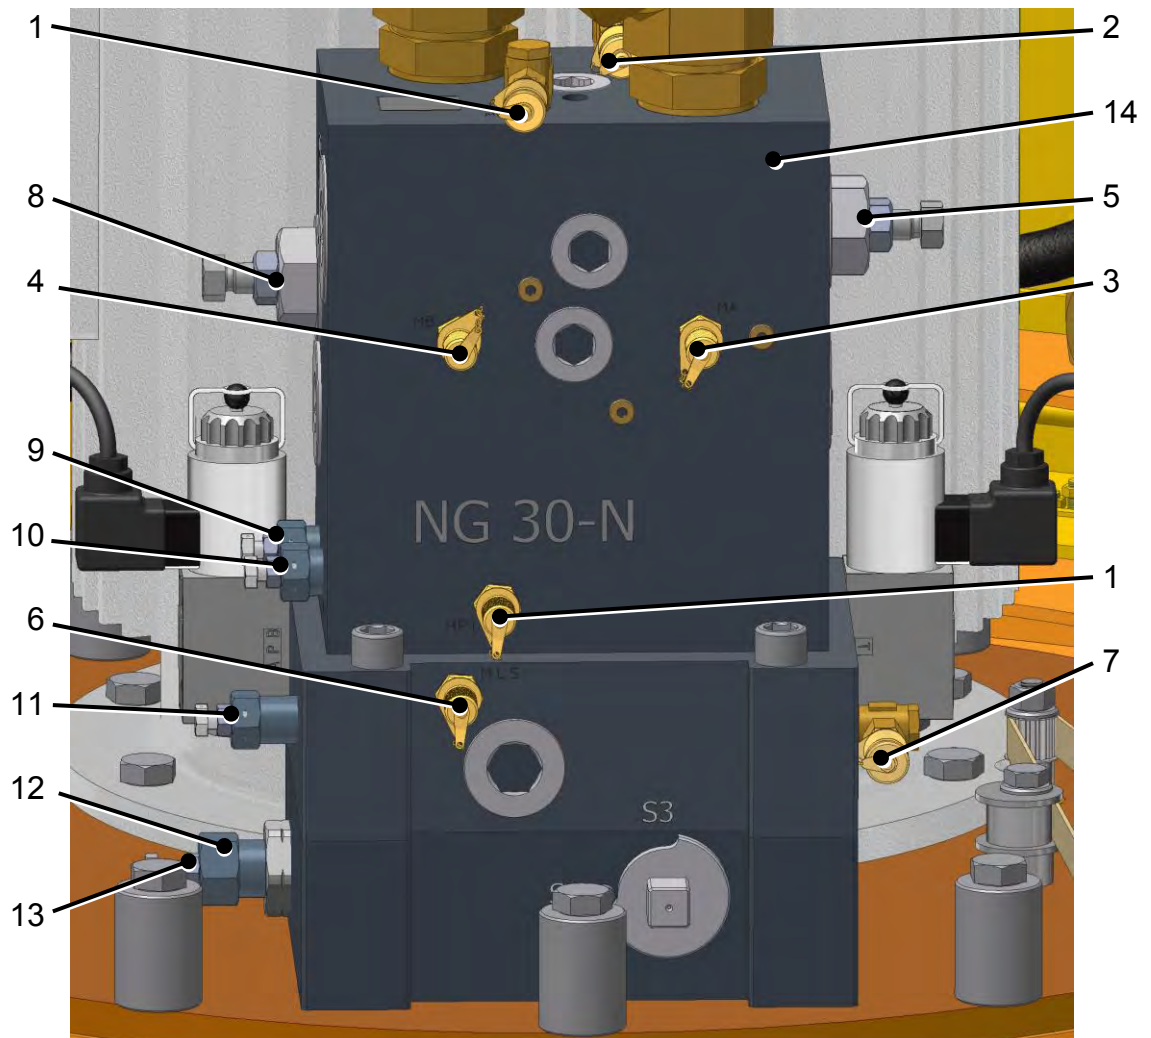

Figure 4.2.6b Control block
Pressure adjustment is done at the control block (see Figure 4.2.6b)
3. Clean the control block from dust and dirt in the area of measuring points (see Fig. 4.2.6b). To set **S3**, if not set yet, turn the three-way stop cock to the right and lock both manual controls; see Fig. 3.2.2a